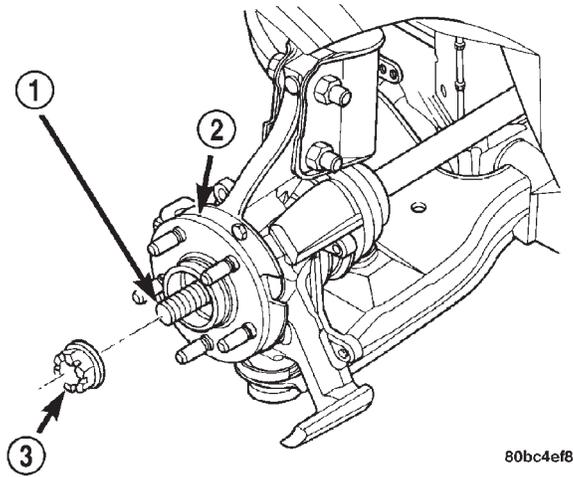

Fig. 15 Driveshaft Retaining Nut Installation
(8) Clean all foreign matter from threads of drive-shaft outer stub axle. Install hub nut onto the threads of the stub axle and tighten nut to 244 N·m (180 ft. lbs.) (Fig. 15).